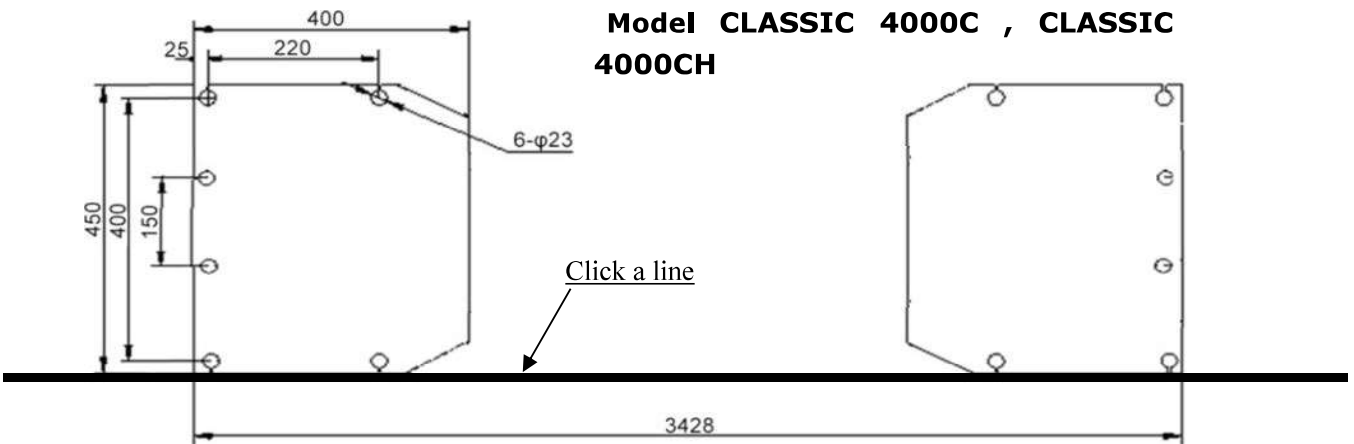

Fig. 6
B. Use a carpenter’s chalk line to establish installation layout of base-plate (See Fig.6).